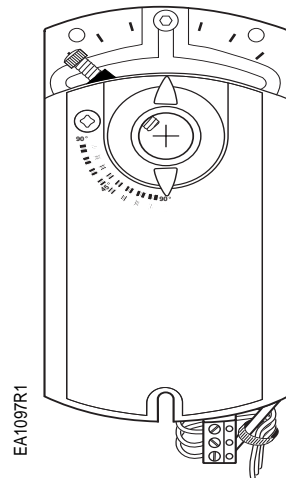

Figure 25.
2. Secure the wires to the actuator bracket with a cable tie as shown in Figure 25.